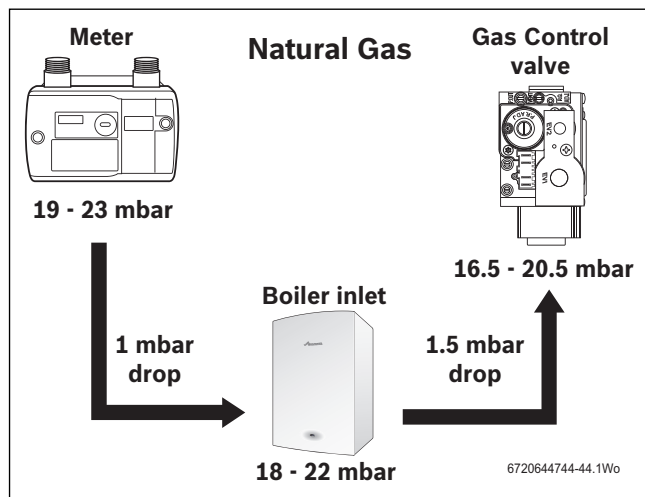
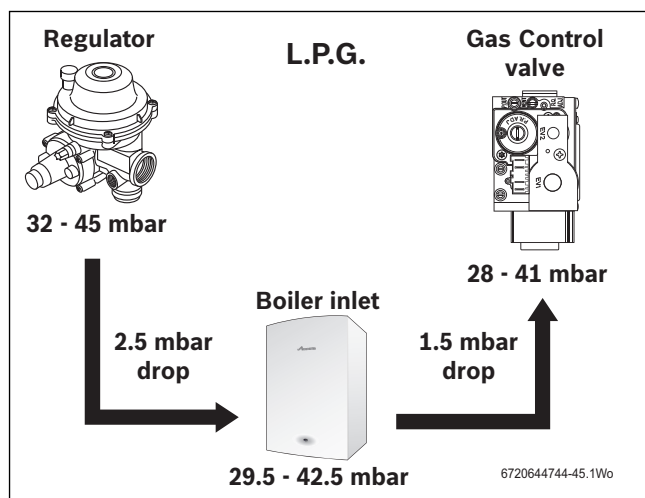

Fig. 53 Natural gas pressures
Fig. 54 L.P.G. pressures
- Press the Performance test button (J) for more than ten seconds and set Central Heating temperature to maximum.
- The Performance test button (J) will illuminate continually and the display (C) will alternate between $\frac{1}{2}$ and the central heating flow temperature.
- ▶ Check the gas supply working pressure at the gas valve conforms to values shown in Fig. 53 or Fig. 54.
If the pressure drops are greater than shown in figure 53, then this would indicate a problem with the pipe work or connections within the system.
If the pressure drops are greater than shown in figure 54, then this would indicate a problem with the pipe work or connections within the system.